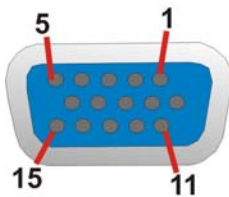

Figure 4-21: VGA Connector
- CN Pinouts:** See Figure 4-21 and Table 4-22